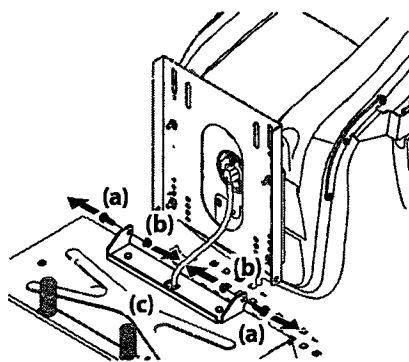

Figure 2-2
- Remove the two shoulder screws (a) and flange lock nuts (b) in the seat bracket (c) as shown in Figure 2-2.